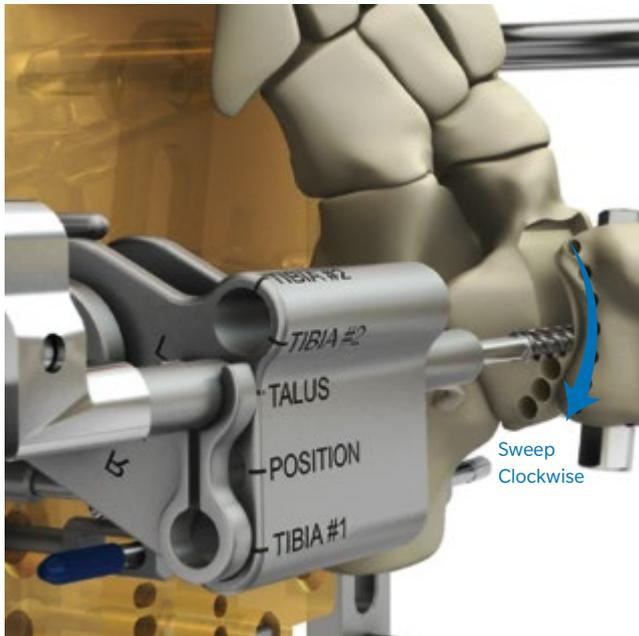

Fig. 54 Remove bone using the provided Bur.
- Sweep the Bur over the perforated area (Fig. 54).